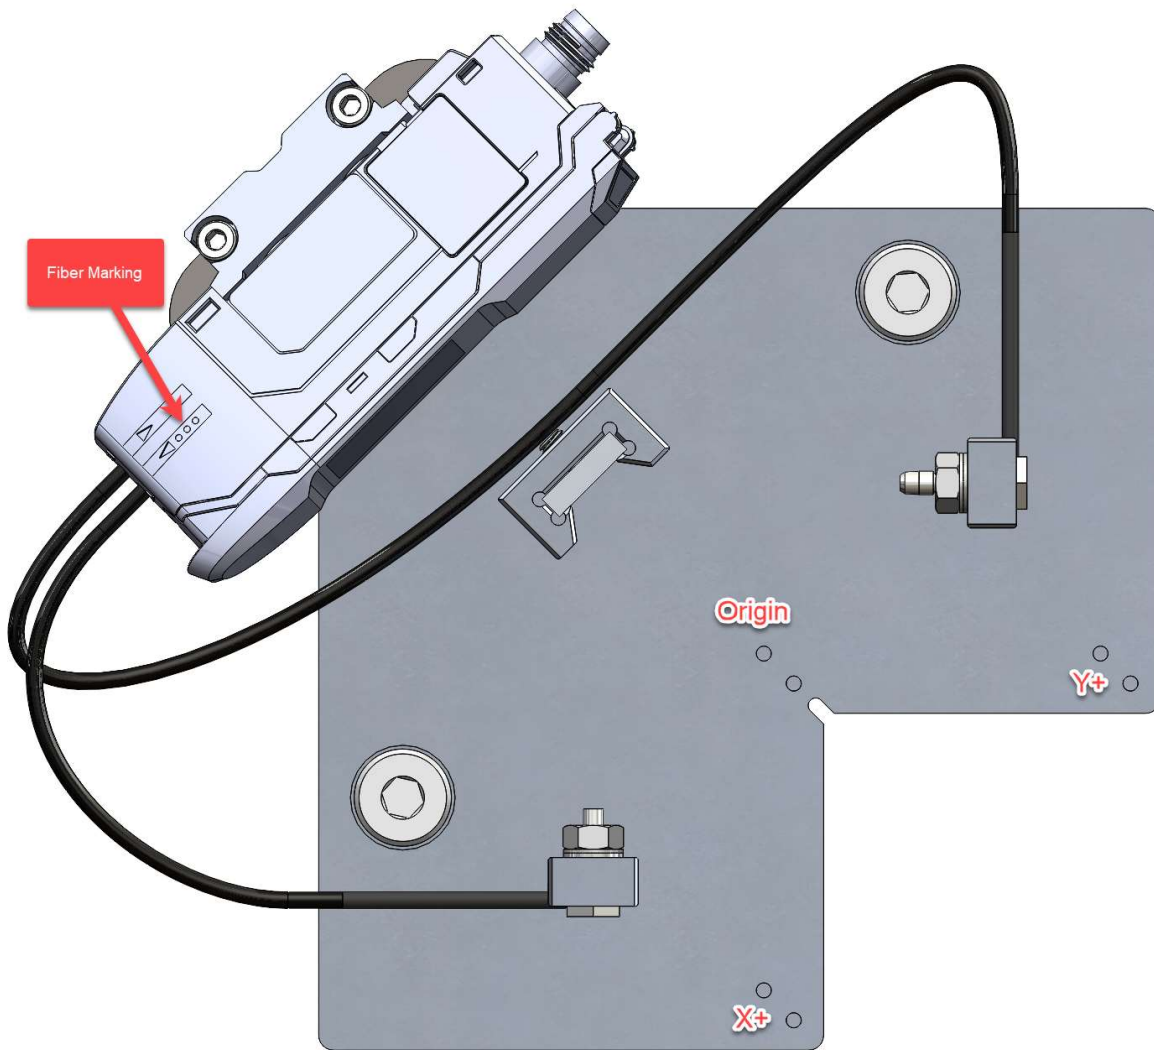

Figure 6 – CalPlane definition
- 2) Set the TCP created in the previous step as the active TCP and define the calibration plane as per Figure 6 below and save the plane as CalPlane. The origin, X+ and Y+ should match the callouts on Figure 6.